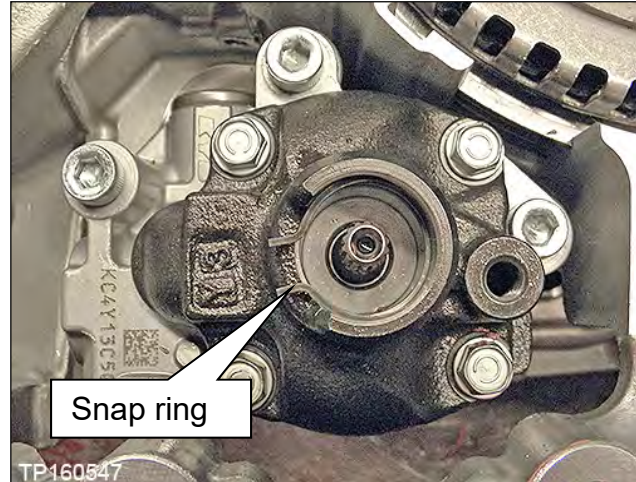

Figure 68
45. Torque the three (3) Allen head bolts and fitting bolt.
46. Install the original snap ring (Figure 68).